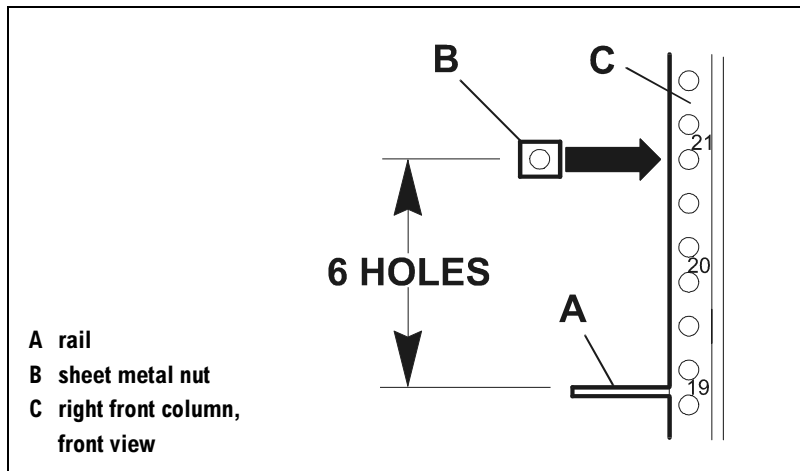

Figure 25 Rack Front Preparation: Unit Rail Position
- If the bottom of the rail (A in Figure 25) is at the EIA Unit number, count six holes up from the rail ledge and install the sheet metal nut.